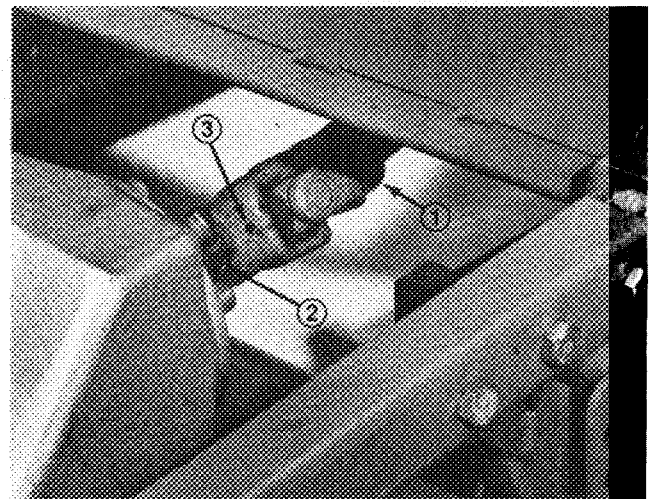

Figure 4
2. Stop engine, remove clevis pins and hairpins from forward and rear height-of-cut brackets (Fig. 8), install cutting unit under carrier frame, align gearcase input shaft with PTO shaft and install shaft (Fig. 4).
3. Lower frame, align PTO shaft hole with gearcase input shaft hole and install roll pin (Fig. 4).